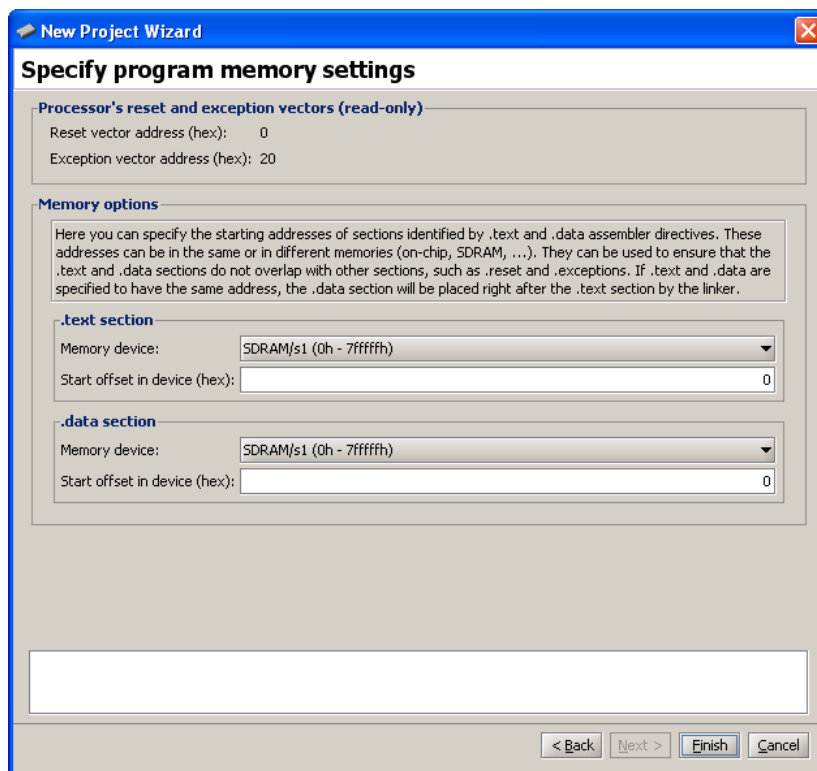

Figure 11. Specifying memory settings.
5. Click **Next** to reach the final screen for creating the new project, shown in Figure 11. This screen is used
As illustrated in Figure 11, choose the SDRAM chip in the DE2 Basic Computer as the storage location for both the *.text* and *.data* sections, and use the value 0 for the offset into the memory for both sections. When the offsets for both sections are identical the linker automatically places the *.data* section immediately after the *.text* section.